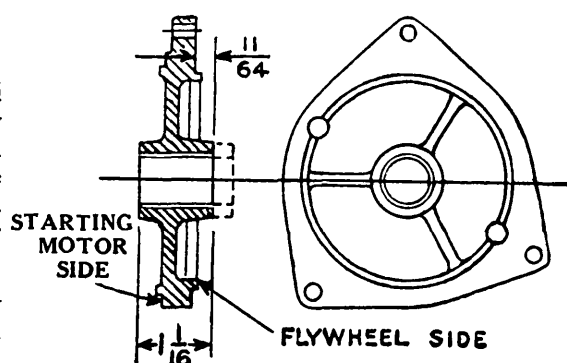

FIG. 4.
8. The face of the plain bearing or boss portion of the starting motor end plate must be cut back a distance of $\frac{9}{64}$ inch in order to provide the necessary space for the assembly of the replacement drive. It is best to do this operation in a lathe, being careful after completing it to remove any burr which might have been thrown into the bearing itself. Note Fig. 4 showing that the distance between the mounting face of the end plate and the end of the boss must be $\frac{11}{64}$ inch after completing the facing operation.